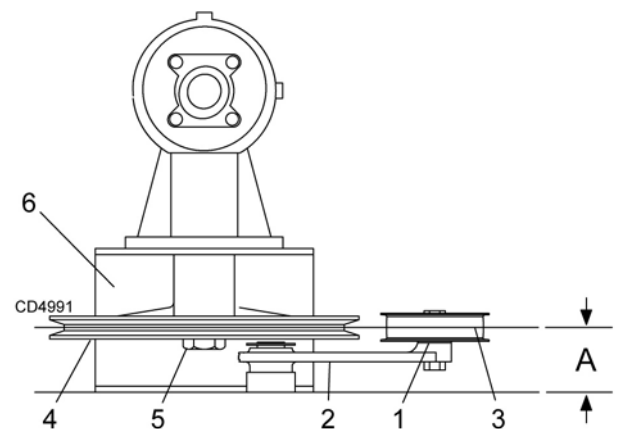

Figure 25. Drive Sheave Installation
1. Install drive sheave (2) and key (3) on gearbox output shaft.
2. Install sleeve (9), washer (4), and castle nut (5) on gearbox output shaft. Torque castle nut to 170 lb-ft. Install cotter pin (6) through castle nut and gearbox output shaft.
3. Slide gearbox onto gearbox stand. When gearbox is installed on mower, dimension A (from the top of mower deck to the center line of the drive pulley) must be 1-9/16" ($\pm 1/32$ "). **This is a critical dimension and must be carefully adjusted for proper belt life.** Add or subtract shim washers under idler sheave to align with drive sheave. See Figure 25.
4. Install carriage bolts (8) and new flange lock nuts (7) through gearbox base. Torque nuts to 175 lb-ft.